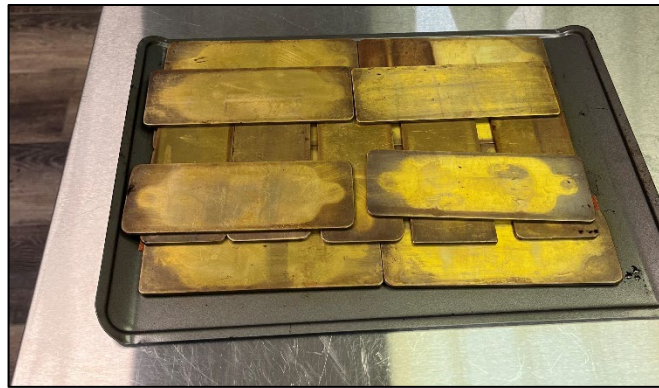

Figure 2: Weights covering sandpaper strips
- 7.4.2 The strips shall be placed in stacks of three on a nonstick pan. Flat weights of sufficient mass to flatten the sandpaper shall be applied across all of the strips. (See Figure 2)